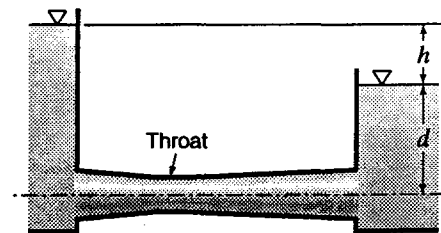

Figure P5.26
5.27 Referring to Fig. P5.26, assume water is flowing and neglect all head losses except at discharge. Find the flow rate if  $h = 1.6$  m. Assuming that  $d = 4$  m, the throat diameter is two-thirds the pipe diameter where it joins the downstream tank, and the atmospheric pressure is equal to the standard atmospheric pressure at 2000 m elevation, calculate the gage pressure and the absolute pressure in the constriction. The throat diameter is 360 mm.